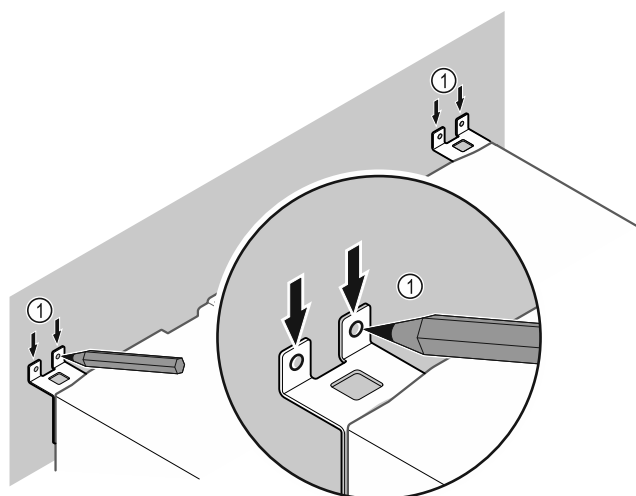

Fig. 68
- ▶ Make markings on the wall Fig. 68 (1).